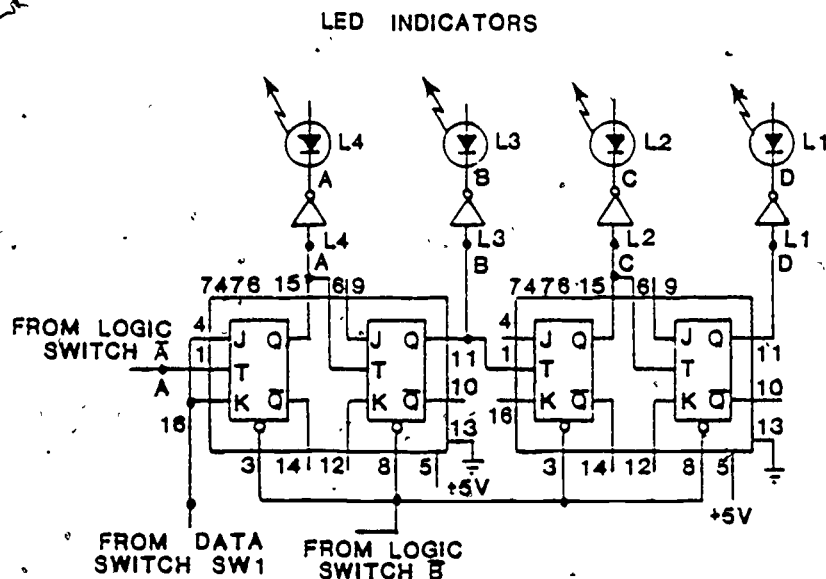

Figure 17. Binary Counter, Using J-K Flip-Flops.
1. Construct the circuit shown in Figure 17. (Use the 7476 J-K flip-flop chip.) It is actually a binary counter. Do not apply power yet.